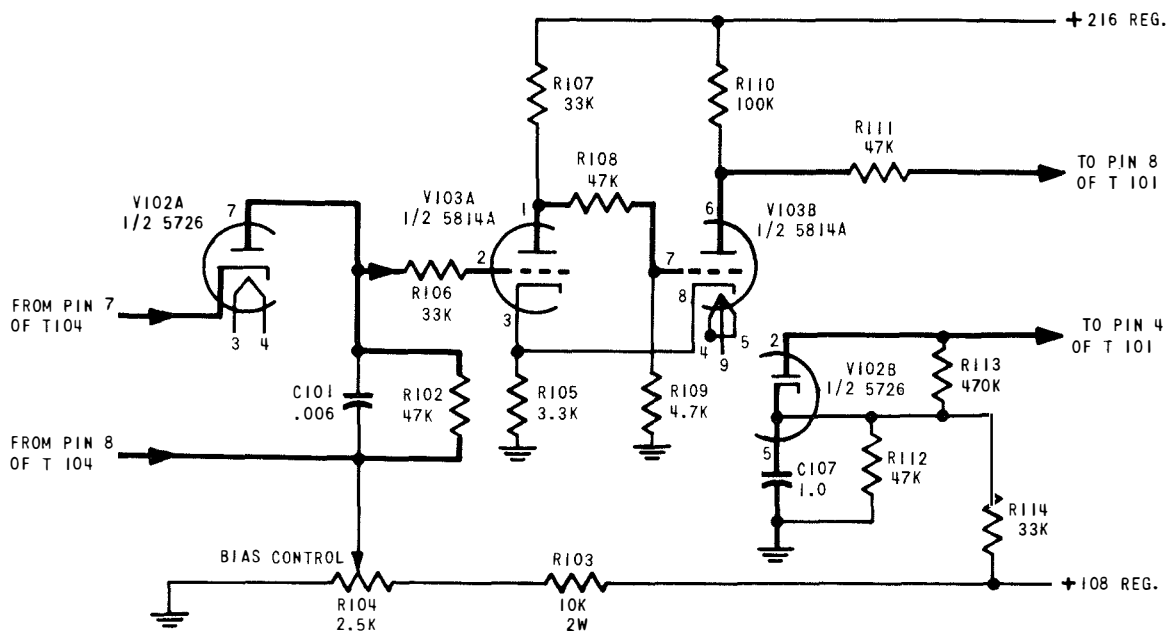

Figure 2-5. Schematic Diagram of DC Amplifier Circuit
c. DC AMPLIFIER. In order to create a DC MARK pulse, the 15 kc voltage output of the loop oscillator is rectified by the 5726 type tube V102A and is filtered by a 0.006 mf capacitor C101 as shown in figure 2-5. The negative pulse so obtained is inserted into the grid of the 5814 type tube V103A. Under SPACE conditions in the loop circuit, no voltage drop will be produced across resistors R125 and R126 and therefore the 15 kc oscillator does not oscillate. No negative potential is applied to the grid of V103A by the rectifier